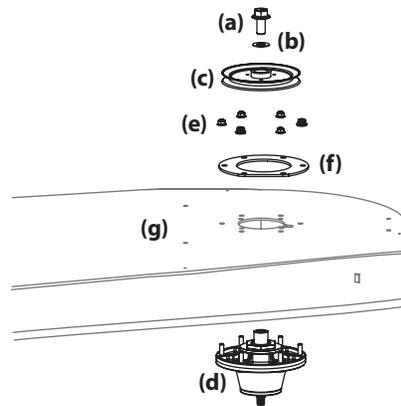
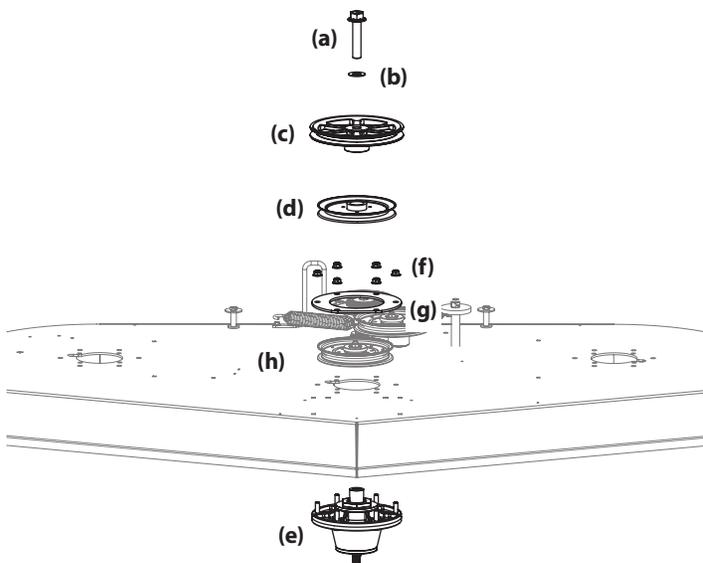

Figure 47
Figure 48
- To remove the left and right spindle assemblies (Figure 47):
- Remove the six (6) flange lock nuts (e) securing the left and right spindle assemblies (d) and the support plates (f) to the deck shell (g).
- To remove the left and right spindle assemblies (Figure 48):
- Remove the six (6) flange lock nuts (f) securing the center (d) spindle assembly (e) and the support plates (g) to the deck shell (h).
- Reverse the process to install the spindle assembly. When installing the new spindle assembly be sure to install the hardware exactly as shown in Figure 47 or Figure 48. Torque the hex flange bolts to 250 ft-lbs. (338.95 N-m) and the flange lock nuts to 21-32 ft-lbs (28.47-43.39 N-m).